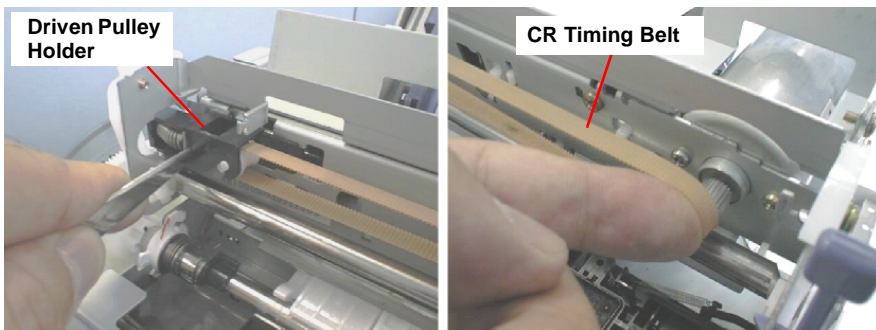

Figure 4-17. Removing the Timing Belt
- 3) Loosen the CR Timing Belt by pushing the Driven Pulley Holder to right using a screw driver, and remove the Timing Belt carefully from the pinion gear on the CR motor. Refer to Figure 4-17.